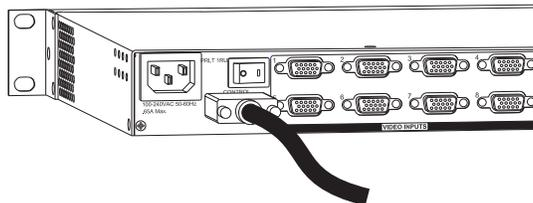

FIG. 8 Attach null modem serial cable to Control port
2. Plug one end of the null modem serial cable into the Control port on the enclosure (FIG. 8).